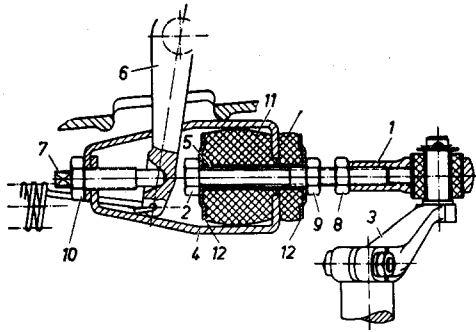

Fig. 29-3/2
rod (6) should be adjusted accordingly by loosening the hexagon nuts (11) (see Fig. 29-3/1).
3. If necessary, check the position of the relay lever (3) on the clutch pedal shaft. The distance from center pedal shaft to center relay lever bolt should be "b" = 32 ± 4 mm on Models 180, 180 D, and 190 SL, and "b" = 29 ± 4 mm in the case of Model 220 a.
The clutch pedal shaft (1) must always rest against the top of the rubber stop (see Fig. 29-3/1). The distance "b" can be varied by changing the position of the relay lever (3) on the splines of the clutch pedal shaft (see Job No. 29-5).
Check whether the rubber buffers (11) and (13) have sufficient initial tension. The cup washers (12) should rest against the spacer sleeve (5), but the spacer sleeve must not be deformed when the hexagon nut (9) is tightened (see Fig. 29-3/2).